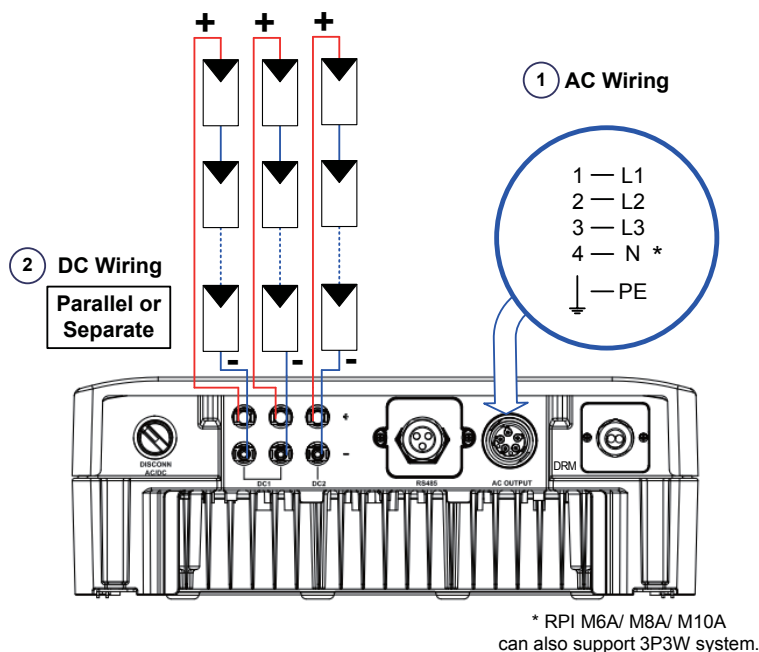

Figure 4-1 Connection of a system for floating solar array
- When grounding the solar array, an isolation transformer is required due to the RPI M6A/ M8A/ M10A not having galvanic isolation between the DC-input and AC-output. Wiring illustrations please refer to **Figure 4-1**.